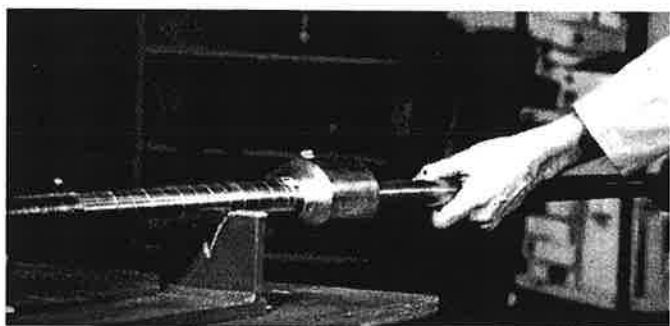

Figure 72. Remove Boring Bar
- E. Remove boring bar through bottom of the machine. See Figure 72.